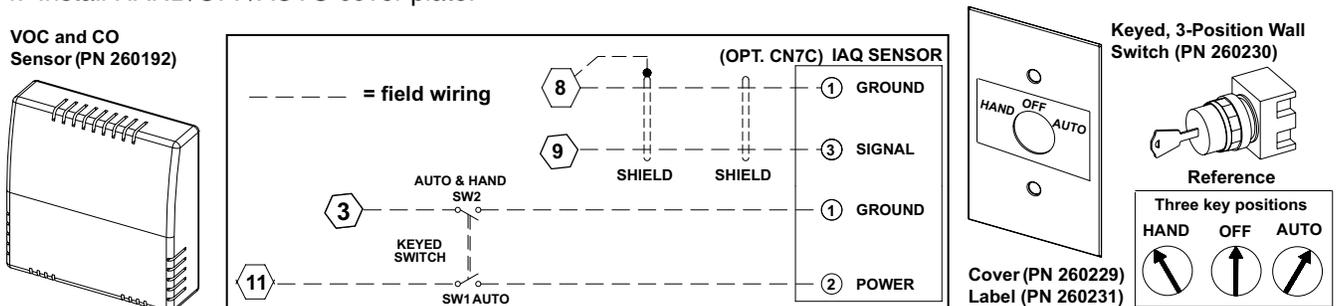

Figure 25. Air Quality Sensor Switch (Option CN7C) Components and Wiring Connections
The volatile organic compound (VOC) indoor air quality (VOC and CO) sensor (see Figure 25) with manual HAND/OFF/AUTO override switch will start or stop the unit. When in AUTO, the unit will start whenever the air quality in the space environment exceeds the VOC level of the setpoint. This option also provides a three-position keyed, manual switch that is wired to the digital input. The three-position switch provides AUTO, HAND (manual on), and OFF modes. When the switch is in AUTO mode, the sensor is powered, the digital start/stop input is open, and the system monitors VOC levels. When the switch is in HAND mode, the contact is closed and the sensor is disabled. When the input is closed, the unit is ON. When the switch is in the manual OFF mode, the contact is open and the sensor is disabled. When the input is open, the unit is OFF. Install the air quality sensor as follows:
- Run wires and make connections (refer to wiring diagram and Figure 25). Use shielded 2/c cable for 0–10V digital signal.